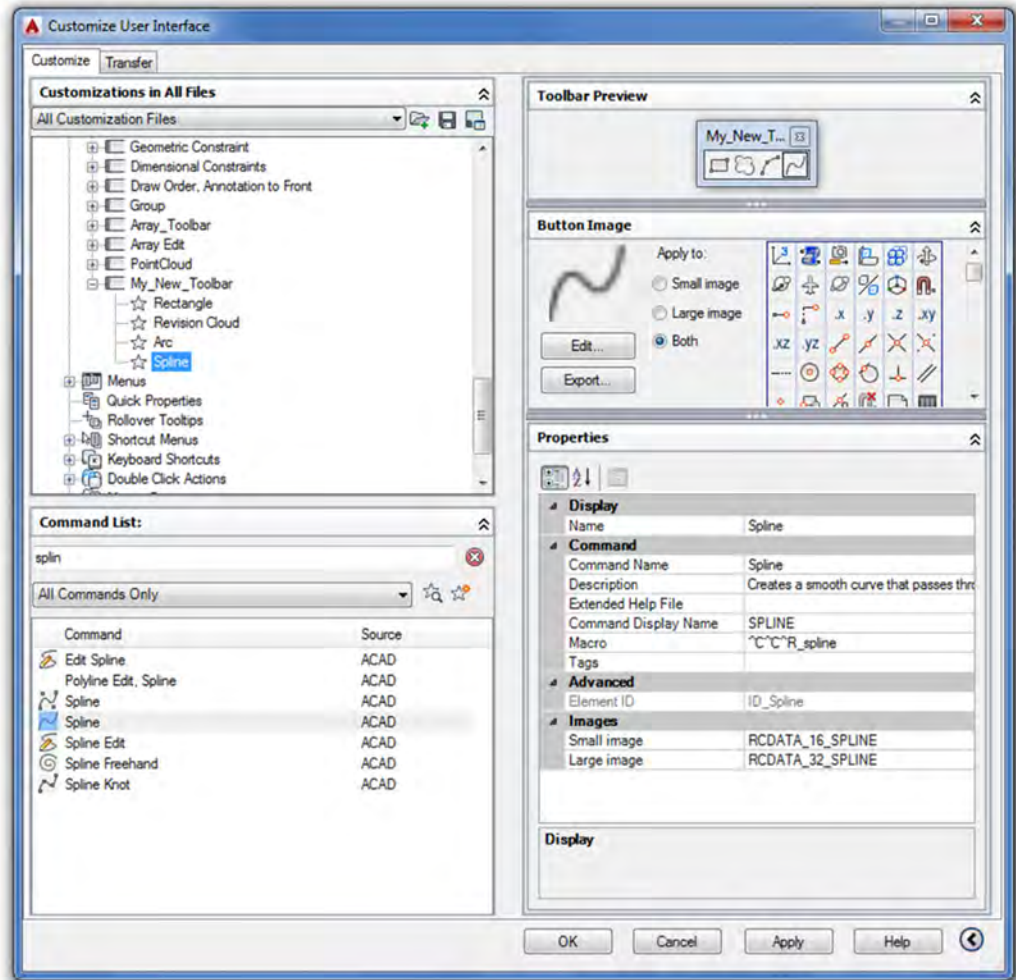

FIGURE 14.20
- Step 2.** On the bottom left begin selecting the commands you want your new toolbar to have (you can filter the commands to find them more easily), and drag them into the new toolbar name on the upper left. As soon as you begin doing this, a toolbar preview and Button Image category appear on the right-hand side, as seen in Figure 14.20, when Rectangle, Revcloud, Arc, and Spline were added in.